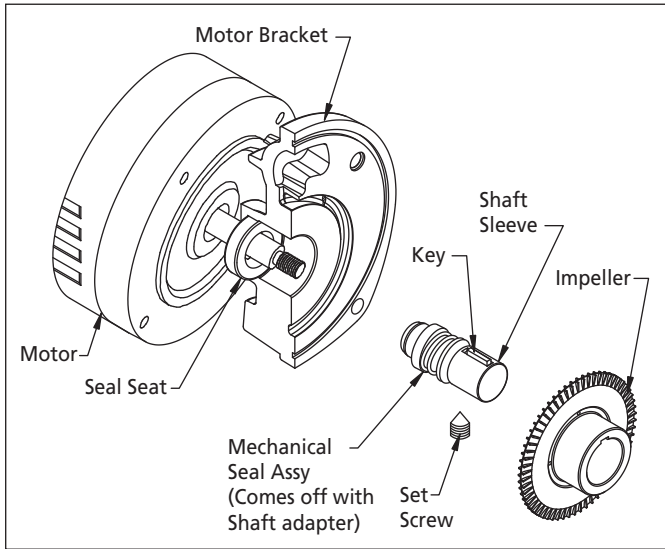

Figure 5 - Impeller, Sleeve and Assembly Removal
2. The impeller floats on the pump shaft sleeve; therefore it can be readily removed (See Figure 5).
3. Loosen set screw on pump shaft sleeve. Turn the pump shaft sleeve counterclockwise to remove (See Figure 5), as the pump shaft sleeve is threaded on the motor shaft.
4. The seal will come off with the shaft sleeve (See Figure 5).
Seal Assembly Removal and Installation (Figures 5 thru 8)